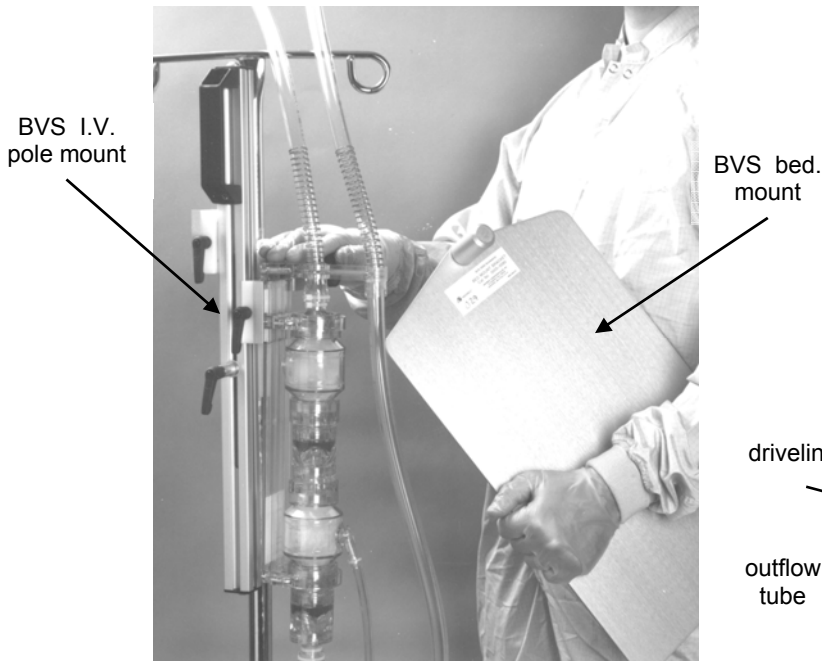

Figure 5.7 Blood Pump accessory Mounting brackets
Two types of accessory brackets are available to mount the blood pump for transport (Figure 5.7). Each bracket can hold one or two blood pumps.
- 1) Connect the drive line from the blood pump to the respective right or left hose connector on the back of the console (Figure 5.7)